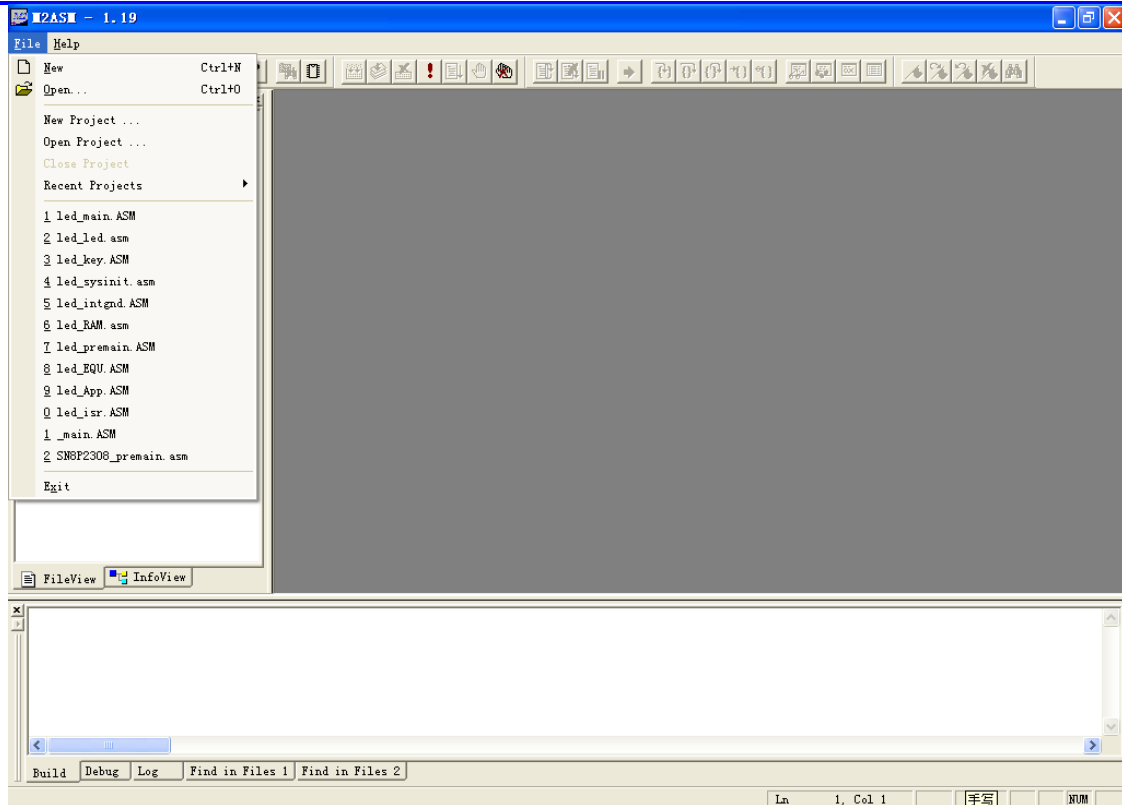

Figure 2-8 Open File Menu
Step 2: Press “Alt + F” in the compiler interface (at that time it will be not affected whether Caps Lock is enabled or not) (After execution, it is shown in Figure 2-8).